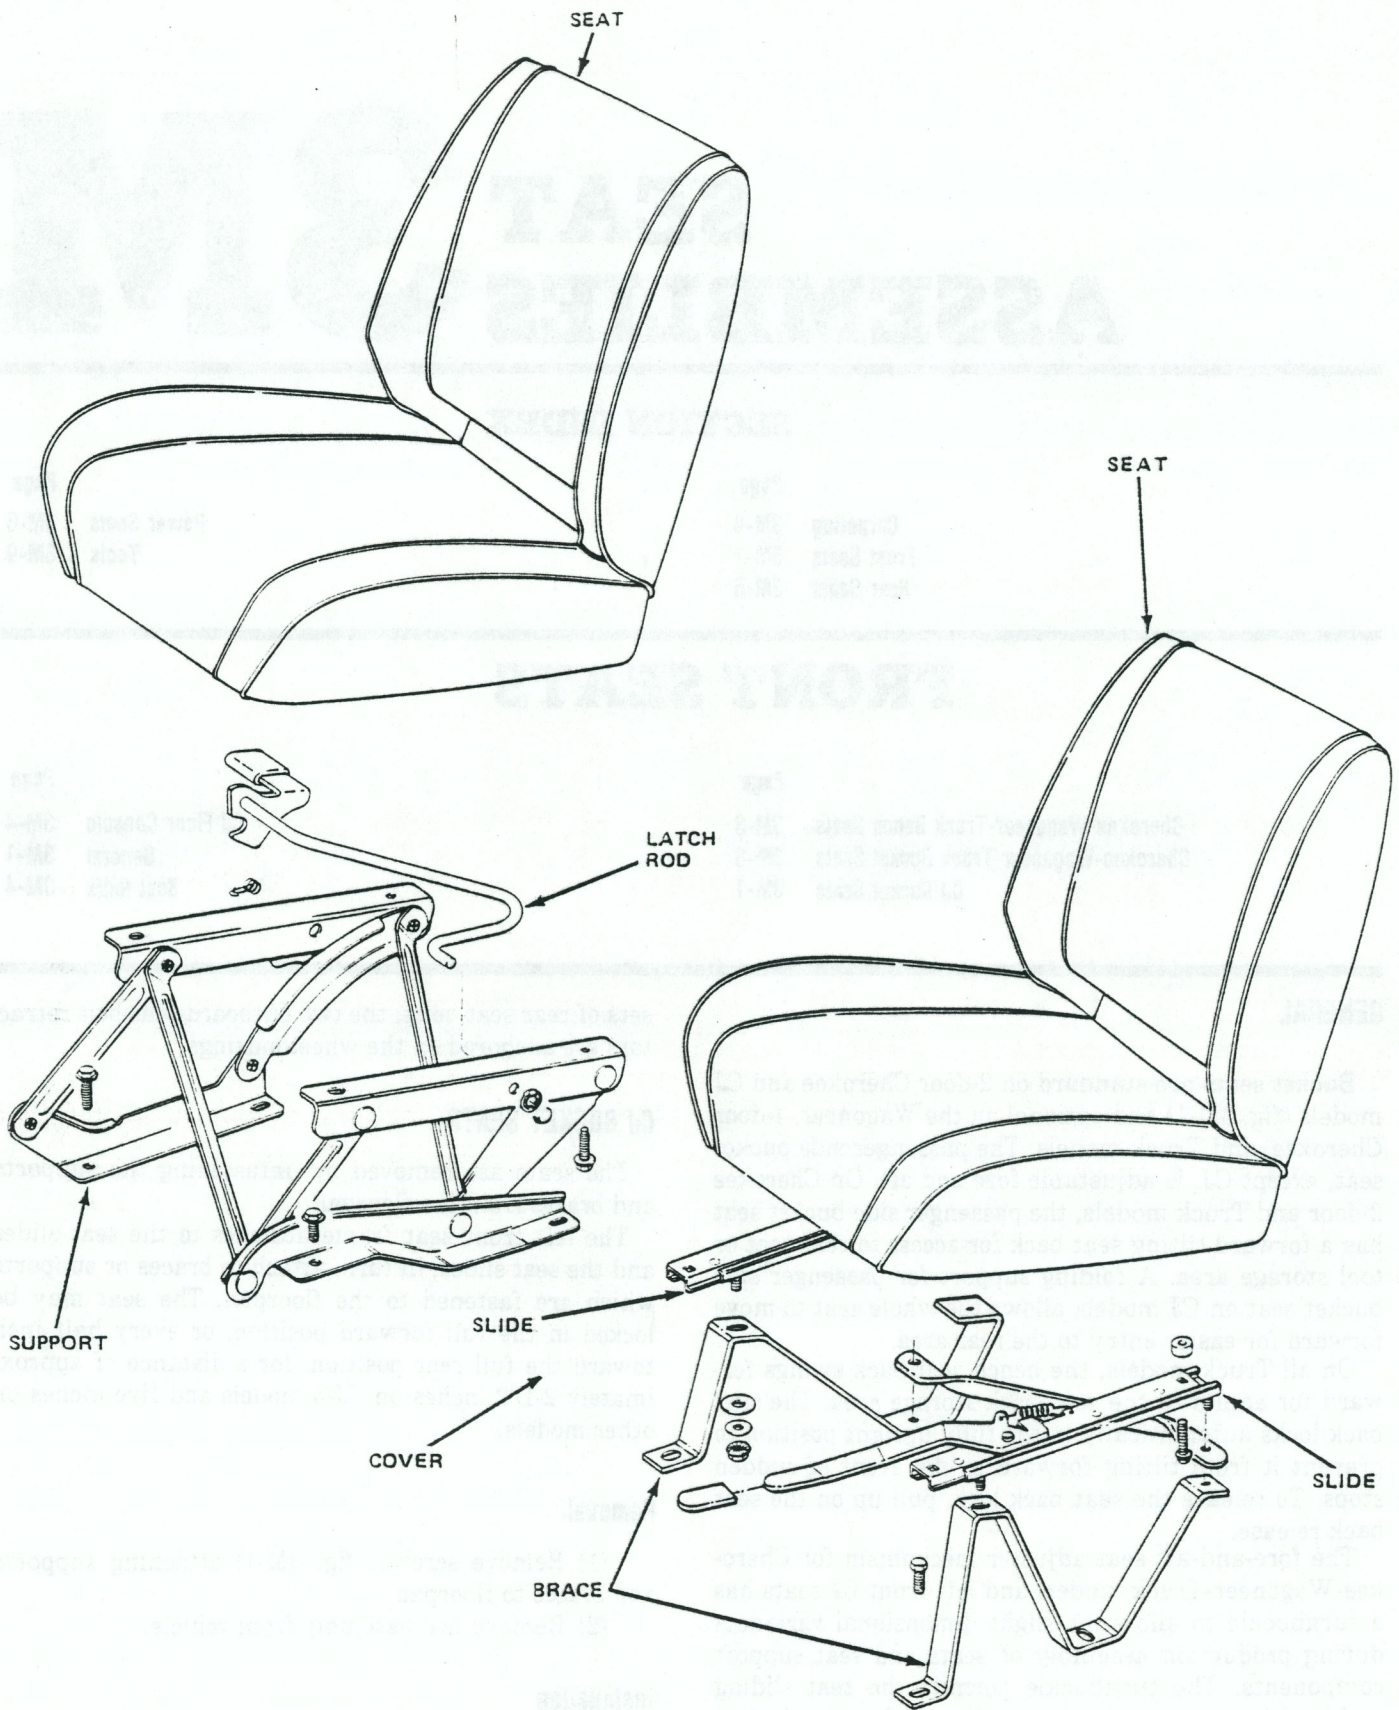

Fig. 3M-1 Bucket Seats—CJ Models
Bucket seats are standard on 2-door Cherokee and CJ models (fig. 3M-1) and optional on the Wagoneer, 4-door Cherokee, and Truck models. The passenger side bucket seat, except CJ, is adjustable fore and aft. On Cherokee 2-door and Truck models, the passenger side bucket seat has a forward tilting seat back for access to rear seat or tool storage area. A folding support for passenger side bucket seat on CJ models allows the whole seat to move forward for easier entry to the rear area.
- (1) Remove screws (fig. 3M-1) attaching supports and braces to floorpan.
- (2) Remove seat assembly from vehicle.